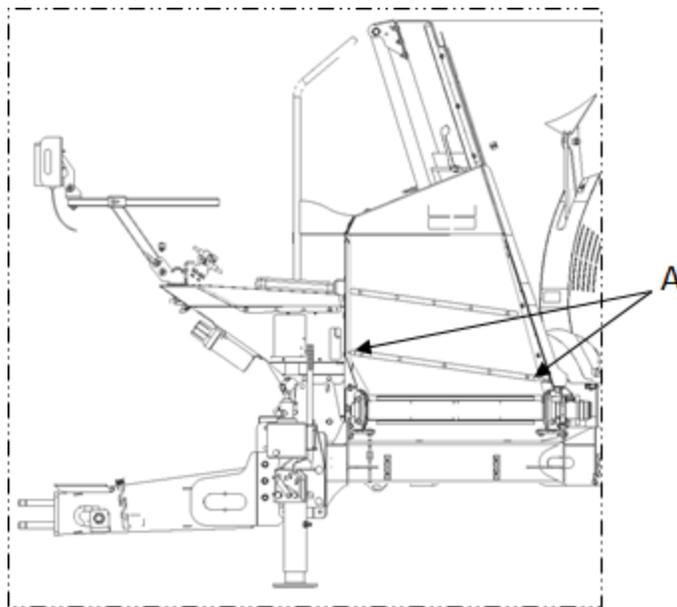

Figure 7 – Retaining Bars
- Attach the retaining bars to the transfer panels by putting two plastic cable ties through the holes in the bars (Figure 7, A).